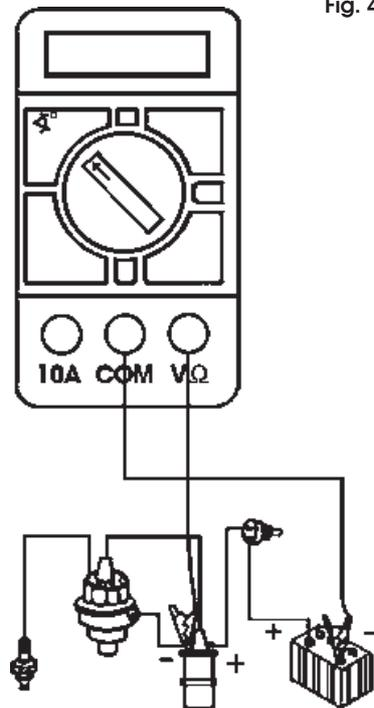

Fig. 4
3. Connect the RED test probe to the (-) terminal of the ignition coil, and the BLACK test probe to the negative (-) terminal of the battery, as shown in Fig. 4.
3. Connect the RED test probe to the (-) terminal of the ignition coil, and the BLACK test probe to the negative (-) terminal of the battery, as shown in fig. 4.